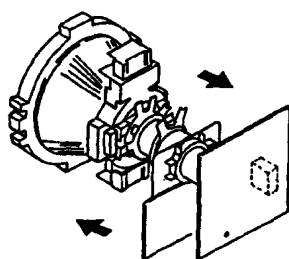

Fig.3-1
4. Move the deflection yoke to the rear and adjust with the purity control so that the red is at the center and the blue and the green take up equally sized areas on each side. (See Fig.3-1, 3-2, 3-4)
5. Move the deflection yoke forward and adjust so that entire screen is red. (See Fig.3-1)